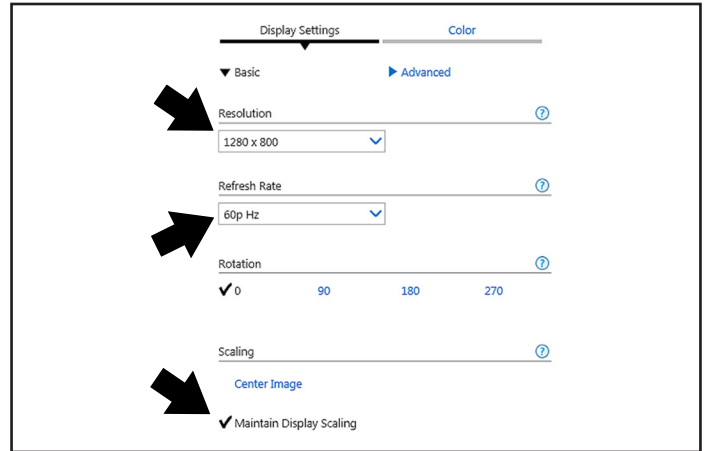

Figure 9
4. Select 1280 x 800 from the Resolution menu (Figure 9).
5. Select 60p Hz from the Refresh Rate menu (Figure 9).
6. Select Maintain Display Scaling (Figure 9).